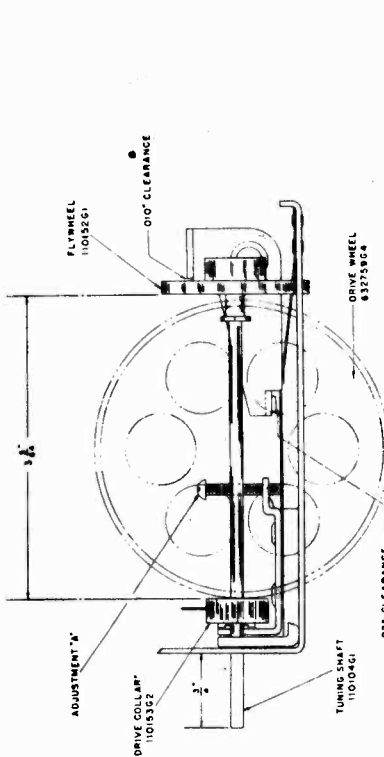
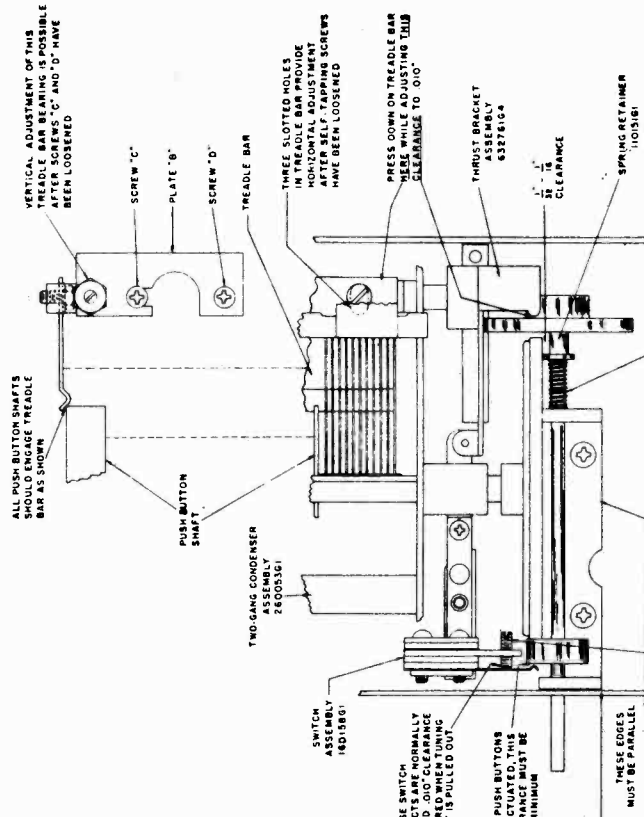

FIGURE 2
FIGURE 3
Whenever any of the mechanical parts in the condenser gang drive assembly require replacement due to rough handling or for any other reason, it is extremely important that clearances and adjustments shown on Figures 2 and 3 are effected; otherwise the tuning mechanism will be sluggish or it may slip during operation.
1. Assemble the Tuning Shaft, Drive Collar, Compression Spring, Spring Retainer and Flywheel in the manner shown on Figure 3. Note that the Tuning Shaft must extend $\frac{1}{4}$ " from the front of the assembly and that the spacing between the rear of the Drive Collar and the front of the Flywheel must be 3-5/64". Any excess length in the Tuning Shaft may extend beyond the rear of the Flywheel. See Figure 2.
2. The distance between the rubber-tired Drive Wheel and the smaller diameter section of the Spring Retainer must be 1/32" to 1/16" (Figure 3). This adjustment is effected by loosening the two No. 6 Allen set screws in the Drive Wheel hub and sliding the wheel on its shaft until the required clearance is obtained. When the adjustment is completed, tighten the two screws in the hub of the Drive Wheel.
3. While pressing down on the Treadle Bar at the location shown on Figure 3, adjust the Thrust Bracket until the clearance between the rear of the Flywheel and the projection on the Thrust Bracket is .010" as shown on the diagram. To make this adjustment, loosen the two No. 6 Allen set screws (use No. 6 Allen Wrench—Magnavox Part No. 800044G2) in the hub of Thrust Bracket and rotate the bracket until the specified clearance is obtained when the push buttons are NOT actuated. Tighten the two screws securely when the adjustment is completed. Press each push button and check that the Drive Collar is pushed away from the rubber-tired Drive Wheel.
4. Next, adjust the clearance in the muting switch contacts by turning the Phillips-head screw designated Adjustment "A" on Figure 2, until the specified clearance of .025" is obtained (when the push buttons are NOT actuated.)
sure of the front surface of the Drive Collar, when the Tuning Shaft is pulled out. The function of this switch is to open the muting circuit when setting up the push buttons. As its contacts are wired in series with the large muting switch (contacts are shorted by pressing any push button), pulling out on the Tuning Shaft causes the small switch contacts to open the muting circuit so that a station can be heard while the push button is held in and tightened. On rare occasions it may be necessary to adjust the relation between the push button bars and the Treadle Bar. Such adjustment might be required if when pushing any of the push buttons, sufficient motion is not transmitted to the Treadle Bar to cause a disengagement between the Drive Collar and the Drive wheel. This can usually be accomplished by loosening the two screws designated "C" and "D" on Figure 3, and moving plate "B" in the direction required to correct this condition.
The alignment of this receiver requires the use of an accurately calibrated r-f signal generator and an output meter. All trimmer condenser locations are shown on the chassis layout diagram, Figure 3. The radio volume control should be turned to maximum and the signal generator output kept as low as possible during alignment to prevent the AVC from operating and giving false readings. Always set the Treble Control to SHARP TUNE before aligning the i-f stages. This is done by turning the Treble Control Knob to the No. 1 position.